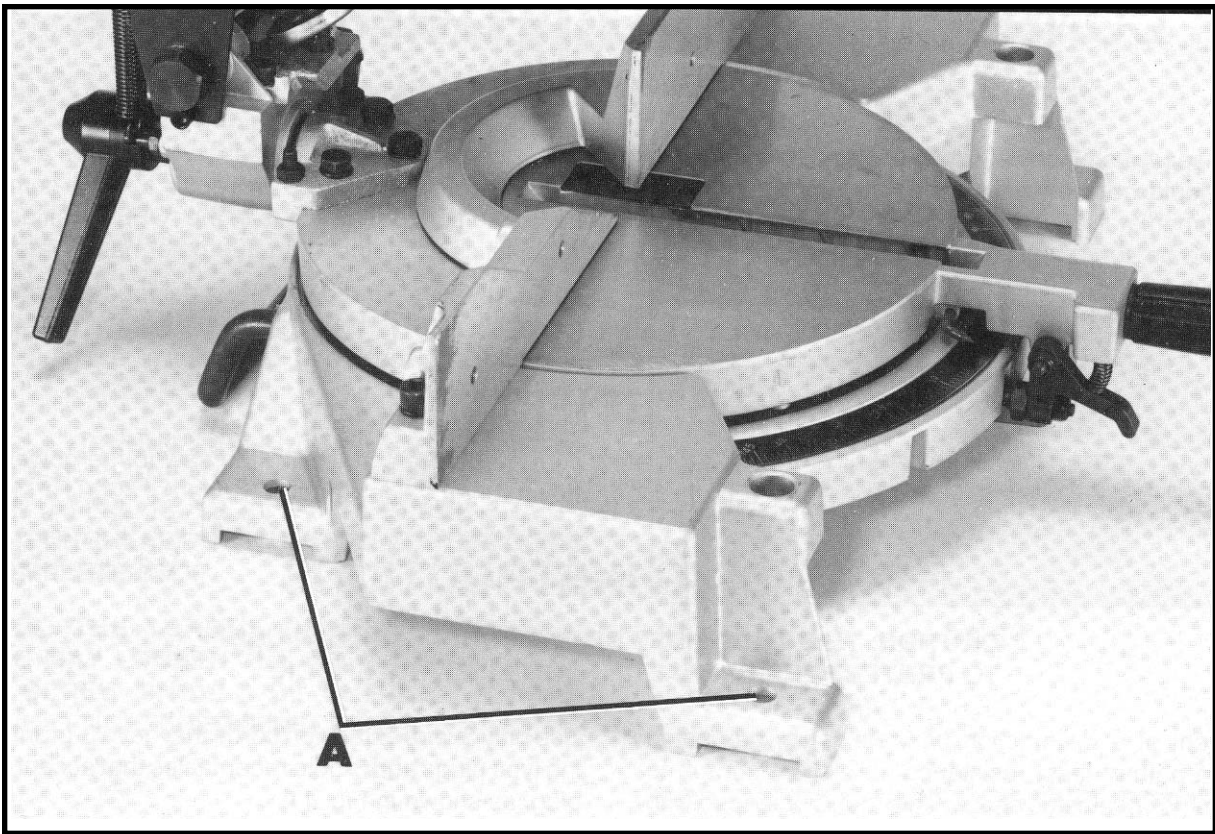

Fig. 9
Before operating your compound miter box, make sure it is firmly mounted to a workbench or other supporting surface. Four holes are provided, two of which are shown at (A) Fig. 9, for fastening the saw to a supporting surface.